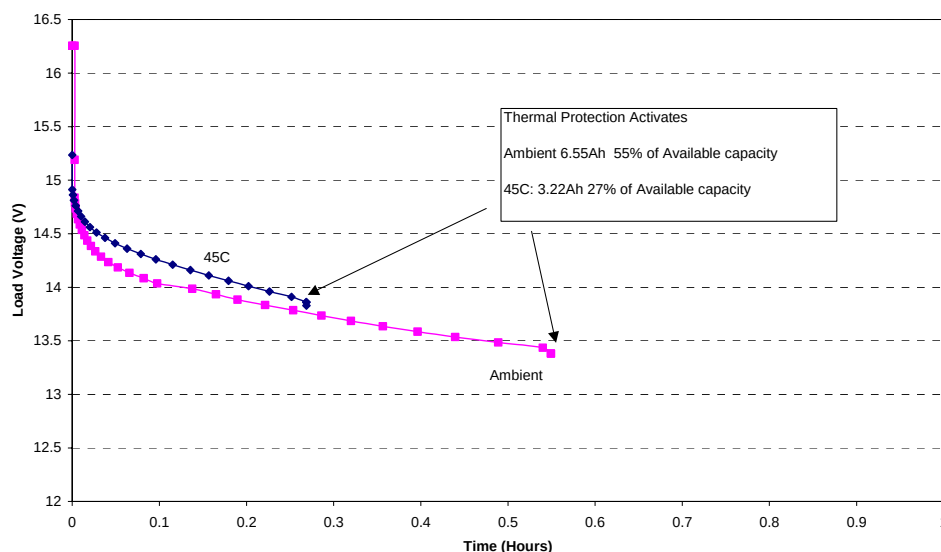

FIGURE 1
7.4. **NOTE:** The continuous use of the battery at or near max discharge capability, especially at elevated temperatures, will cause reset-able internal thermal protection devices to activate. See Figure 1.